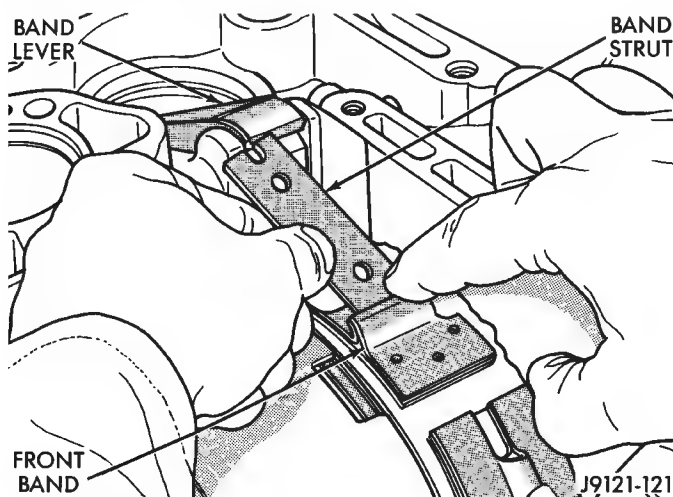

Fig. 11 Removing/Installing Front Band Strut
- (18) Loosen front band adjusting screw until band is completely loose.
(19) Squeeze front band together and remove band strut (Fig. 11).